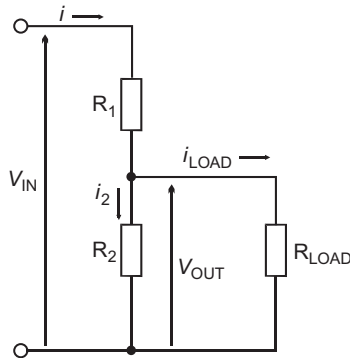

FIGURE 3.4 When a load is connected to the divider, it is in parallel with R_2 .
- 12 For each of the variable dividers shown in Figure 3.4, describe in words the range of output voltages obtainable.